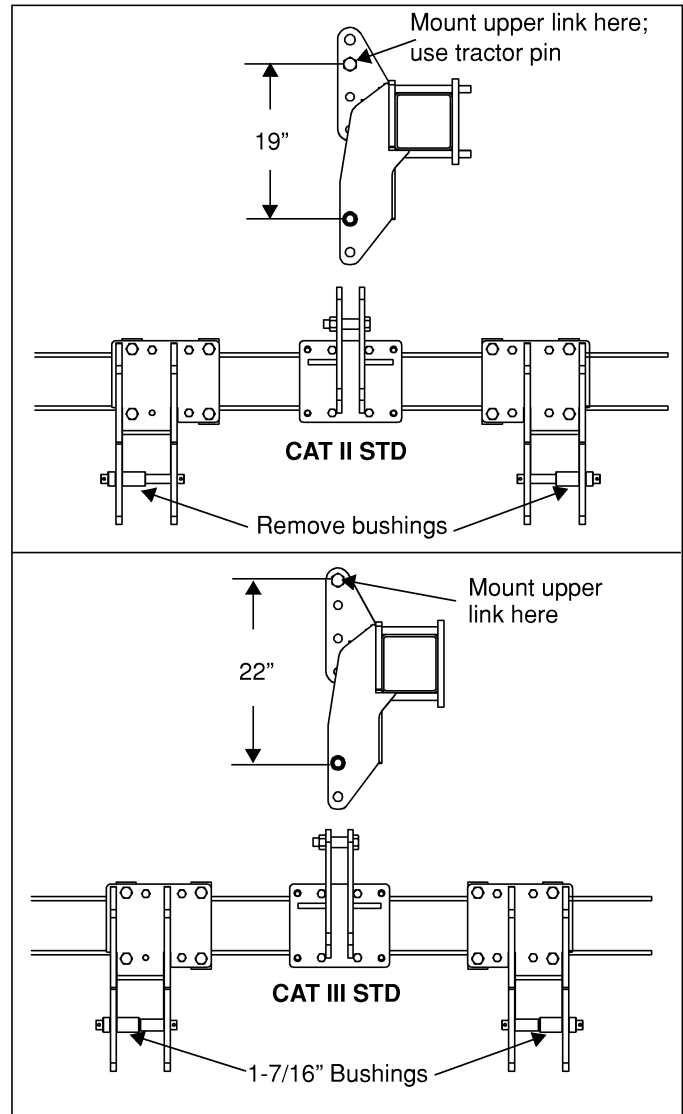

Figure 2 Standard Hitch Configuration
3. Make sure hitch pins and spacers are completely assembled to match the hitch configuration of your tractor. See Figure 2.